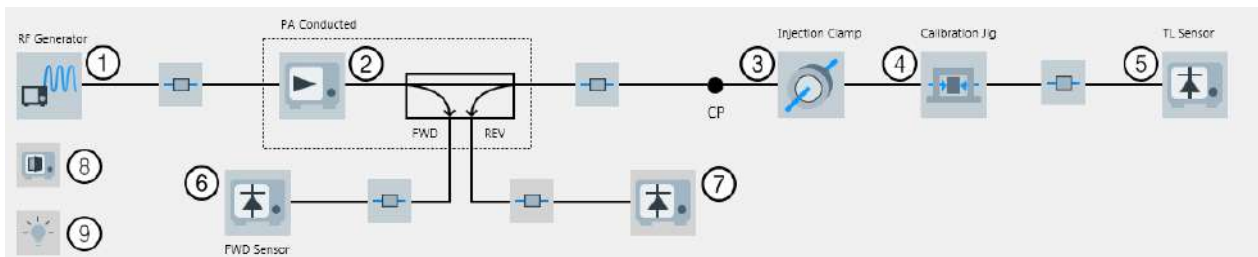

Figure 4-149: EMS hardware setup diagram for BCI (with Sensor) in Calibration View
- The "Calibration View" (see Figure 4-149)